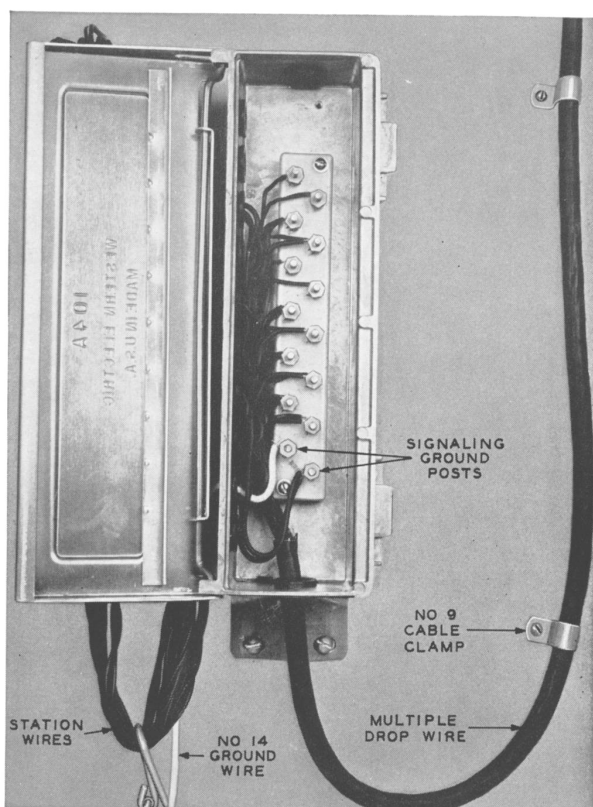
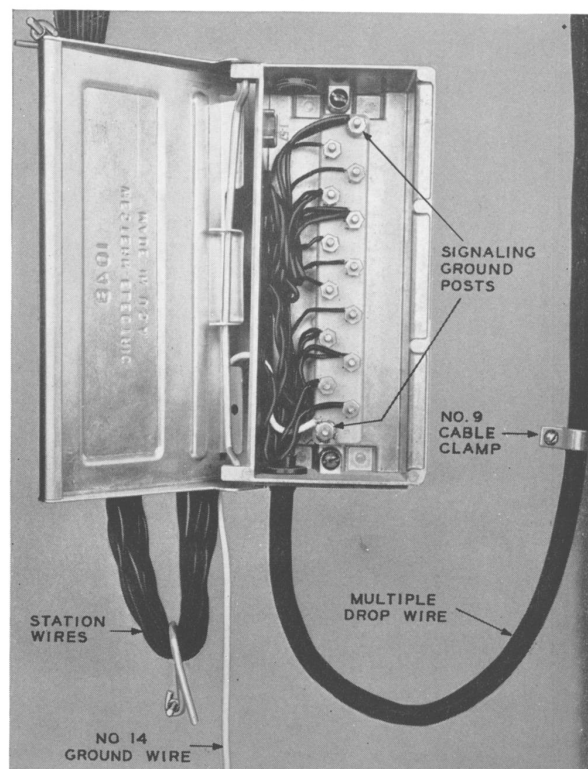

FIG. 3—WIRING OF 104A WIRE TERMINAL
FIG. 4—WIRING OF 104B WIRE TERMINAL
5.01 The 104A wire terminal shown in Fig. 3, and the 104B wire terminal shown in Fig. 4 are wired with multiple drop wire, but may also be used with separate block or drop wires.